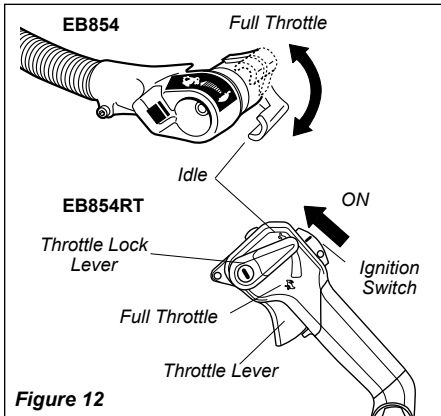

Figure 12
4. Move the throttle lever to half throttle. **RT Model:** Slide the ignition switch to the "I" (ON) position, then depress the throttle lever halfway and lock throttle by moving the throttle lock lever halfway down. See Figure 12.